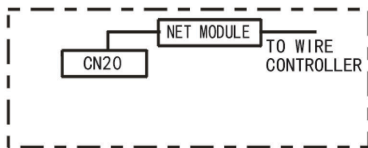

Fig. 26 — Net Module
2. Connect the wired control with the net module (see Fig. 26).